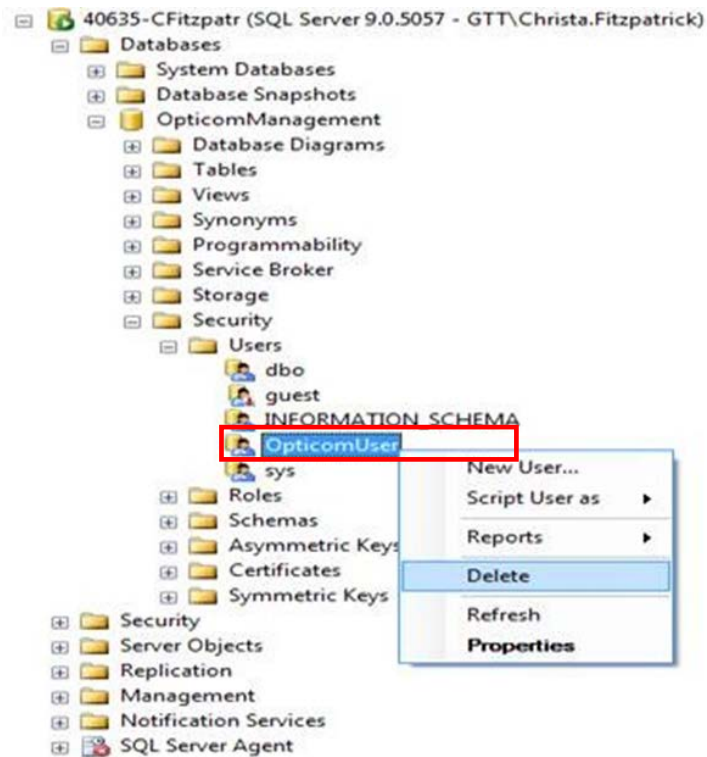

Figure 19-6
5. Delete the OpticomUsers out of Security Users in the OpticomManagement database. See Figure 19-6.
8. Delete the OpticomUsers out of Security Users in the OpticomManagement database. See Figure 19-6.
- a. Right click the item (example in red box in Figure 19-6) and select the delete menu item.